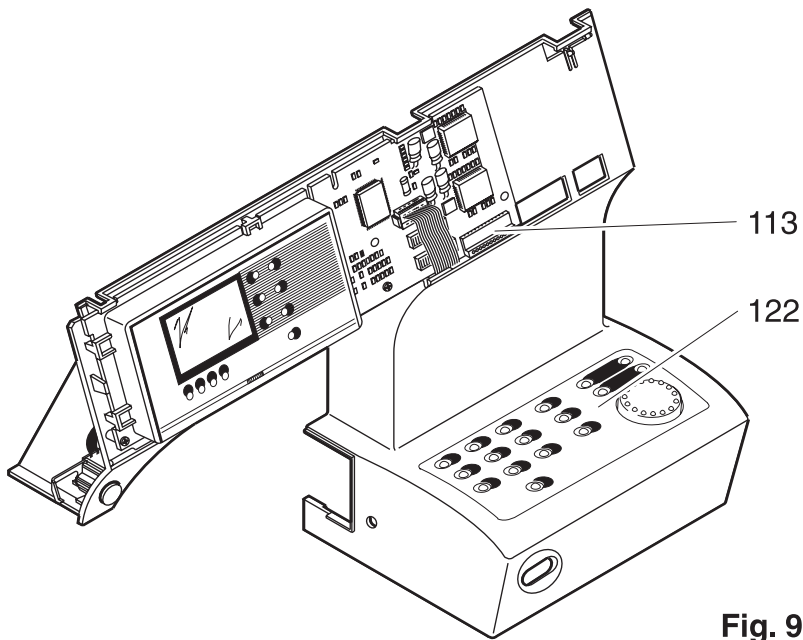

Fig. 92
- Remove connection plug 113 from the circuit board (fig. 92).